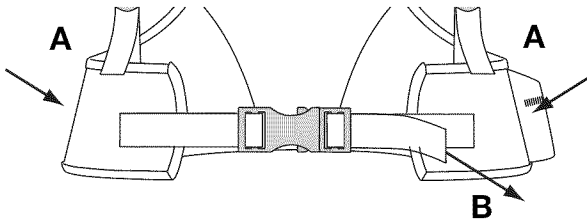
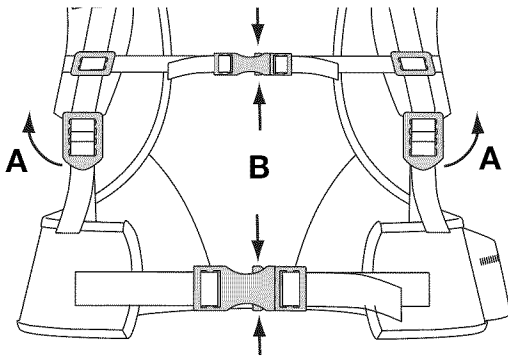

Fig. 19
Fig. 20
NOTE: Make sure the weight of the unit is supported on the hips by the waist support (Fig. 19, A).
3. If weight is not on hips, loosen the shoulder supports (Fig. 20, A) and pull the waist support handle (Fig. 19, B) to tighten. Adjust until the unit's weight rests on the hips.
1. To loosen the shoulder supports, pull up on bottom tab of the shoulder support buckles (Fig. 20, A).
2. Squeeze the top and bottom of the waist and shoulder support clips to release the suspension system (Fig. 20, B).